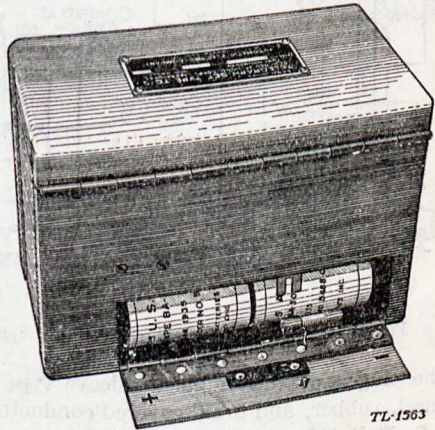

FIGURE 3.—Rear view of telegraph set TG-5 showing local circuit batteries.
2. **General description.**—*a.* The set in its aluminum alloy case weighs 5 pounds including batteries, and is provided with a canvas and leather carrying case CS-49, weighing 1 pound. Figure 1 shows the telegraph set with its component parts including its carrying case. Figure 2 shows the set ready for connection to a line circuit. Figure 3 shows a rear view of the set and the manner in which the local circuit batteries are installed. Figure 4 shows schematically the working parts of the set, their terminals, the color scheme of the wires connecting them together, and the effect on the line relay of moving the external pointers when making relay adjustments.